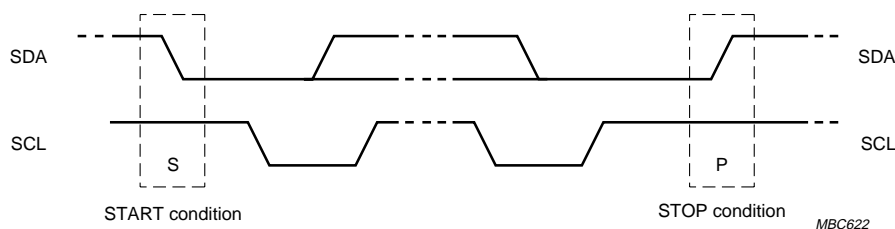

Fig 9. Definition of start and stop conditions.
Both data and clock lines remain HIGH when the bus is not busy. A HIGH-to-LOW transition of the data line, while the clock is HIGH is defined as the START condition (S). A LOW-to-HIGH transition of the data line while the clock is HIGH is defined as the STOP condition (P); see **Figure 9**.